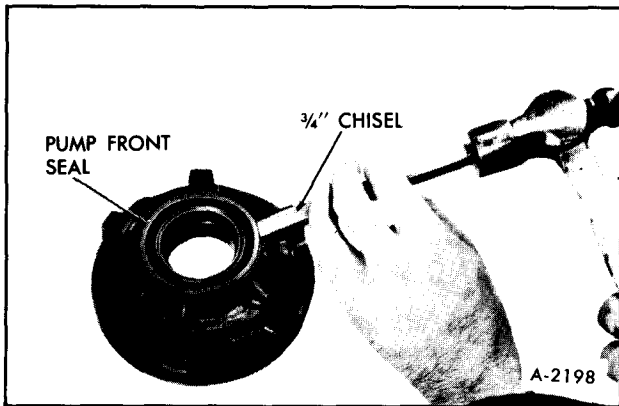

Figure 89—Removing Pump Front Seal
9. Inspect front seal for damage. If replacement of front seal is necessary, use a standard 3/4" cold chisel and pry front seal from pump body, Figure 89.